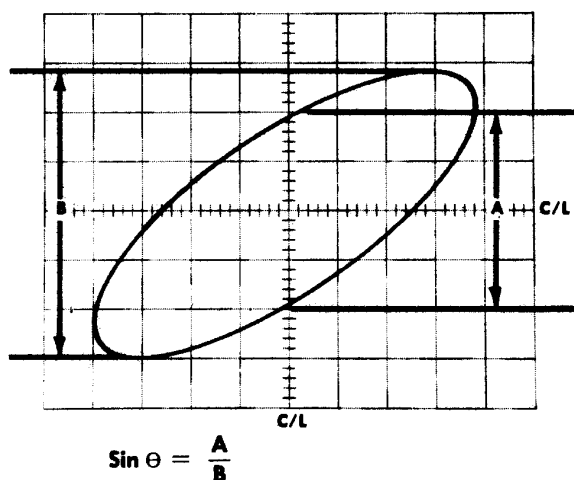

Fig. 3-1. X-Y method of calculating phase difference (Θ) between two sine waves.
8. If the input signals are sine waves, the display will probably be an ellipse. Fig. 3-1 shows a method for calculating the phase difference between the two signals. (If the display appears as a diagonal straight line, the two sine waves are either in phase or 180° out of phase; if the display is a circle, the two sine waves are 90° out of phase.)